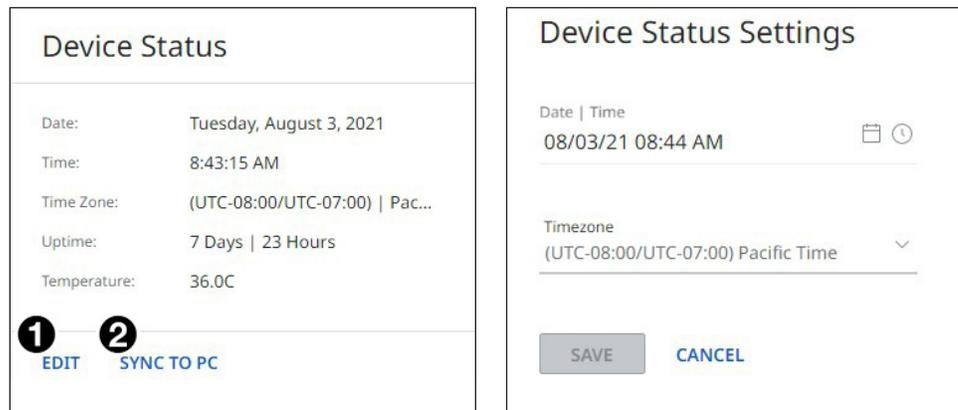

Figure 43. Device Status Panel
1. Click **EDIT** (see figure 43 [left], **1**) in the **Device Status** panel. The **Device Status Settings** panel opens to allow edits (right).